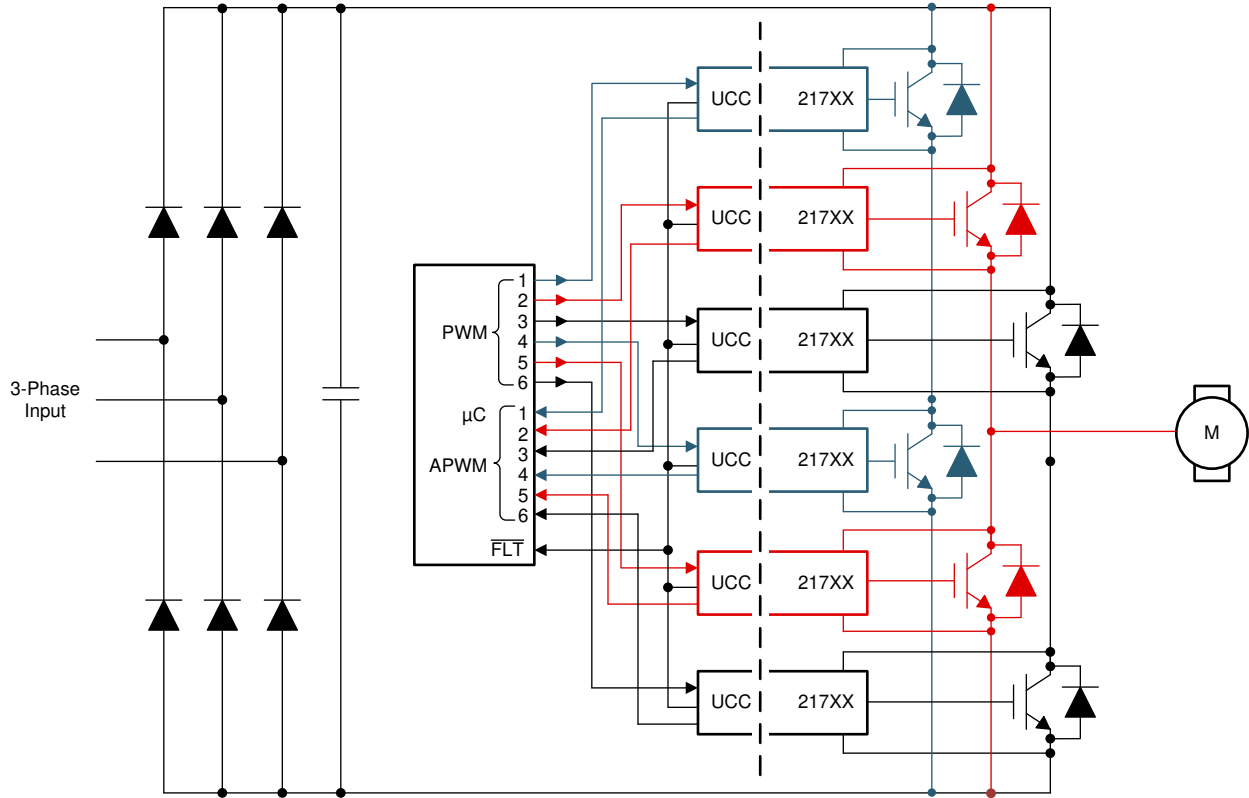

Figure 9-1. Typical Application Schematic
**Figure 9-1** shows the typical application of a half bridge using two UCC21755-Q1 isolated gate drivers. The half bridge is a basic element in various power electronics applications such as traction inverter in HEV/EV to convert the DC current of the electric vehicle's battery to the AC current to drive the electric motor in the propulsion system. The topology can also be used in motor drive applications to control the operating speed and torque of the AC motors.